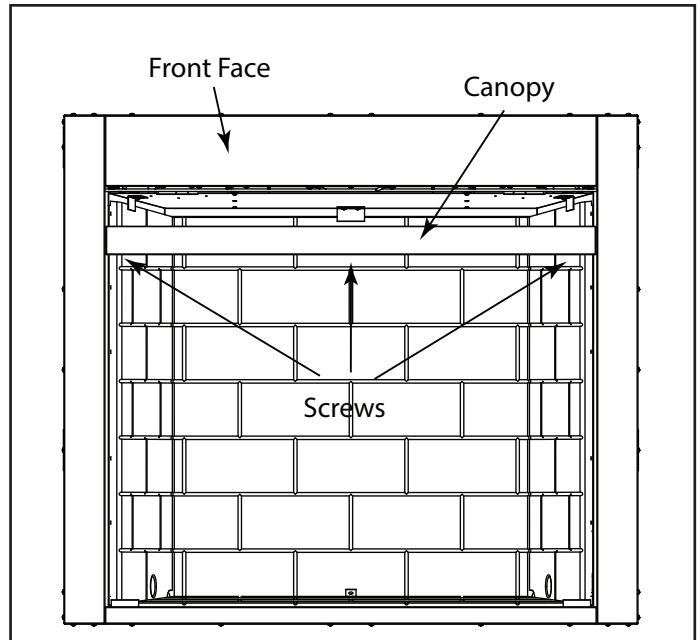

Figure 7.2 Canopy Installation
1. Locate three (3) screws at the front edge of face (one at each end, and one in the center.)
2. Loosen screws slightly, slide canopy slots against screws and tighten in place. Figure 7.2